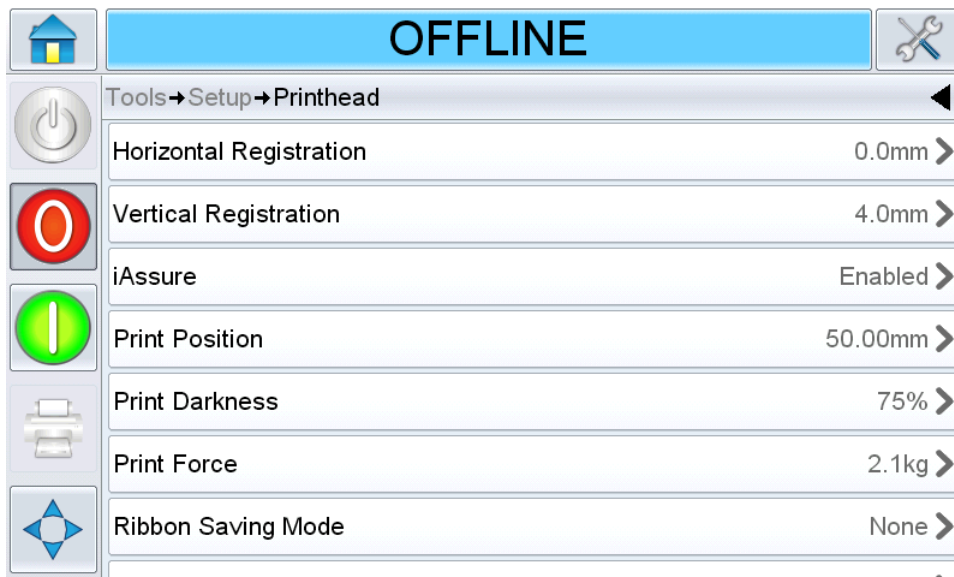

Figure 6-8: Printhead Setup Screen for Intermittent Motion Applications
Figure 6-8 shows the printhead setup screen for printers that have been installed to work on an intermittent motion packaging machine (prints only when the target material is stationary).
1. Navigate to *Tools > Setup > Printhead*. The Printhead screen is displayed (Figure 6-8 on page 6-10).